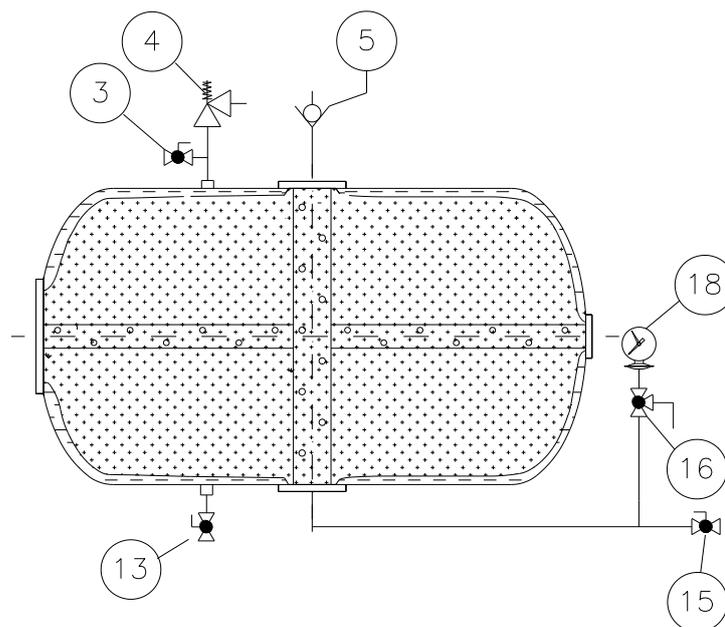

Figure a.10
15. Close the filling valve (15), and the vent valve (3). Disconnect the hose, the pick up tube and clean them.
16. Disassembly the filling device and replace it with the automatic vent valve (5), at this point, the unit is ready. (figure a.10)